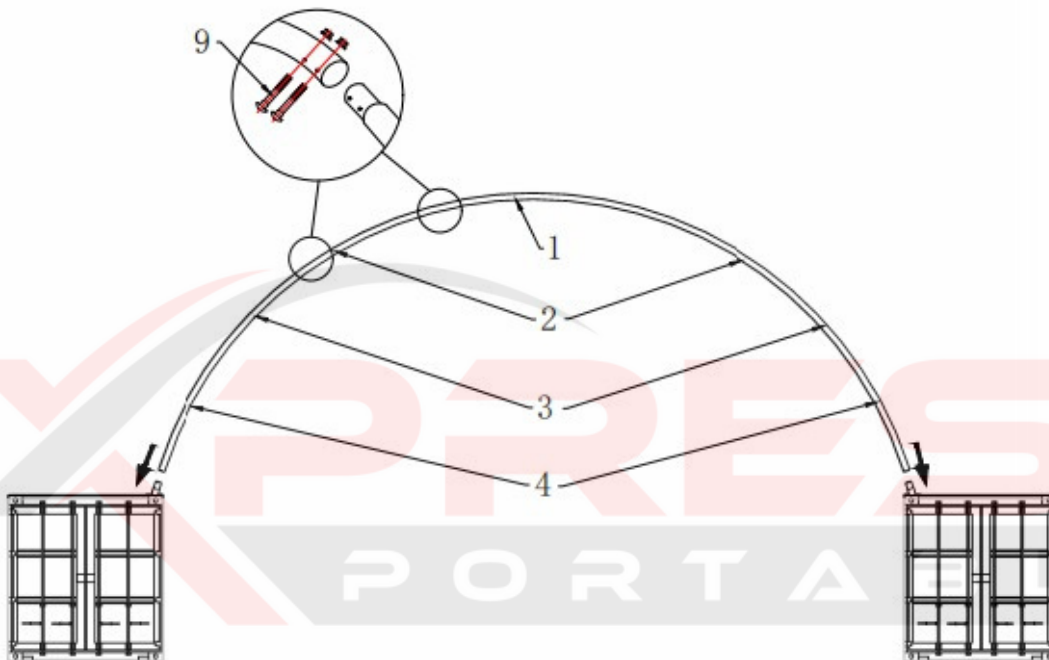

Figure 3
1. As Figure 3 shown, find Roof Bent Tube (No. 1), Upside Bent Tube (No.2), Underside Bent Tube (No.3) and Lower Bent Tube (No.4). To connect them by Carriage Bolts (No.9.), which makes one group of arch. Please NOTE the direction of the bolt. DO NOT install the bolts on the top of the truss where the fabric will rest.